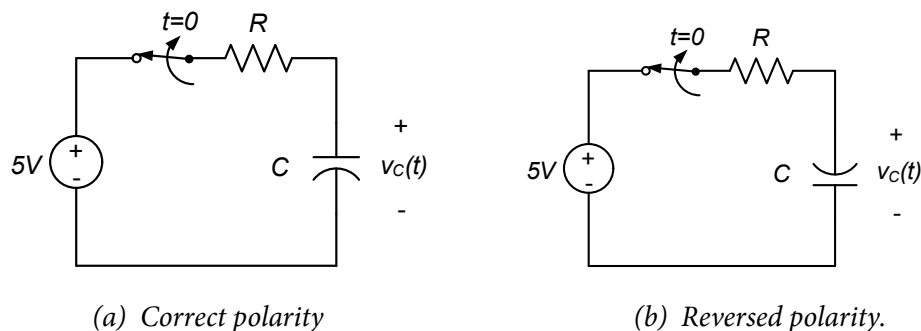
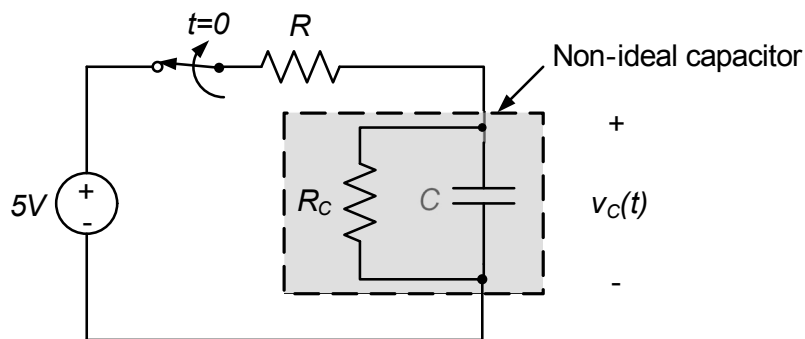
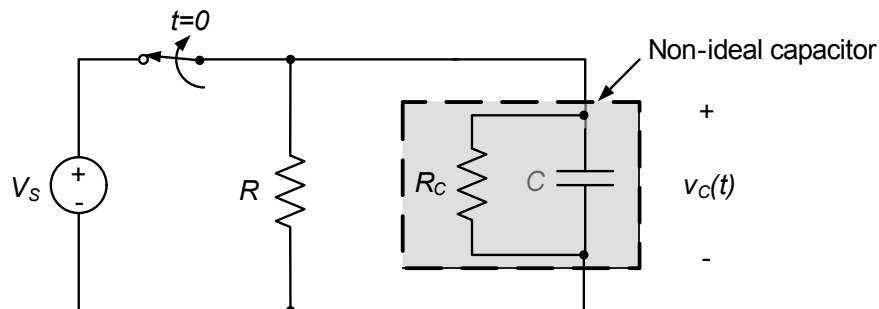

Figure 2. Capacitor configurations used in this lab.
Figure 3. Circuit of Figures 2, with non-ideal capacitor.
Figure 4. Circuit with external resistor connected across non-ideal capacitor.
In this lab assignment, we will measure the voltage across an electrolytic capacitor for both of the cases shown in Figure 2. In Figure 2(a), the polarity of the capacitor is correct; the anode is always at the higher voltage. In Figure 2(b), the polarity of the capacitor is reversed – the cathode is now at the higher voltage. We will use a
The resistor R in the circuit of Figure 2 simply limits the amount of current the capacitor demands when it is being initially charged. Capacitors require a large amount of current to charge rapidly; without the resistor, the capacitor will attempt to draw more current from the power supply than is available.
1. Using $R = 100\Omega$ and $C = 10\mu\text{F}$, implement the circuit of Figure 2(a). (Recall that, in Figure 2(a), the anode is at the higher voltage. Thus, the capacitor terminal with the longer lead is connected to the resistor R and the shorter lead is connected to ground.) Use $V+$ to apply the 5V supply.
- i. Use channel 1 of your oscilloscope to measure the voltage across the capacitor, $v_C(t)$. We will be monitoring the amount of time required for the capacitor to discharge once we open the switch in Figure 2(a); this will take a relatively long time, so set the time scale on your oscilloscope to 5 s/div. Set the vertical scale of your scope to 1 V/div, with a -2V offset.
- iii. Open the “switch” in Figure 2(a) by unplugging the power supply terminal from the circuit. (Simply pull the $V+$ connector out of the breadboard.) The capacitor voltage displayed on the oscilloscope screen should decay exponentially. Measure the time constant of the waveform³. Record the image of the oscilloscope window, showing the waveform.
2. Still using $R = 100\Omega$ and $C = 10\mu\text{F}$, implement the circuit of Figure 2(b). (In Figure 2(b), the cathode is at the higher voltage. Thus, the capacitor terminal with the shorter lead is connected to the resistor R and the longer lead is connected to ground.) Use $V+$ to apply the 5V supply. Note that this circuit can be easily created from the circuit of Figure 2(a) by removing the capacitor, reversing the leads, and replacing it again.
- ii. Open the “switch” in Figure 2(b) by unplugging the power supply terminal from the circuit. (Simply pull the $V+$ connector out of the breadboard.) The capacitor voltage displayed on the oscilloscope screen should decay approximately exponentially. Measure the time constant of the waveform. Record the image of the oscilloscope window, showing the waveform.
3. In the circuits of Figure 2, there is no way for the capacitor’s voltage to decay – the charge difference on the plates cannot “leak” away, since there is (in our model, anyway) no path for the charge to get from one plate to the other. The circuits of Figure 2 are not realistic, based on the capacitor behavior we observed in parts 1 and 2 above. We must modify how we think about capacitors’ behavior in order to explain our data!
In section 6.3 of the textbook, we modeled non-ideal capacitors as a resistance in parallel with an ideal capacitor. Using this model, the circuits of Figure 2 can be modified to become Figure 3 below. Now there is a path – the resistor R_C – which allows the capacitor voltage to decay after the switch opens, allowing us to explain our previous data!
As we observed in parts 1 and 2 above, the leakage rate in electrolytic capacitors changes, based on the polarity of the capacitor voltage. In essence, this means that the capacitor resistance, R_C , in the model of Figure 3 depends on the polarity of the capacitor voltage⁴!
Suppose that we modify the circuit of Figure 2(a) so that there is a path for the capacitor to dissipate its voltage after the switch opens, as shown in Figure 4. Based on the capacitor resistances you estimated in part (c) of the lab procedures, how large would the resistor R need to be in order for the capacitor resistance R_C to change the rate at which the capacitor voltage dissipates by about 10%? (E.g. how large would R need to be before the measured time constant of the capacitor voltage decay changes by 10% when the resistance R_C is included?)